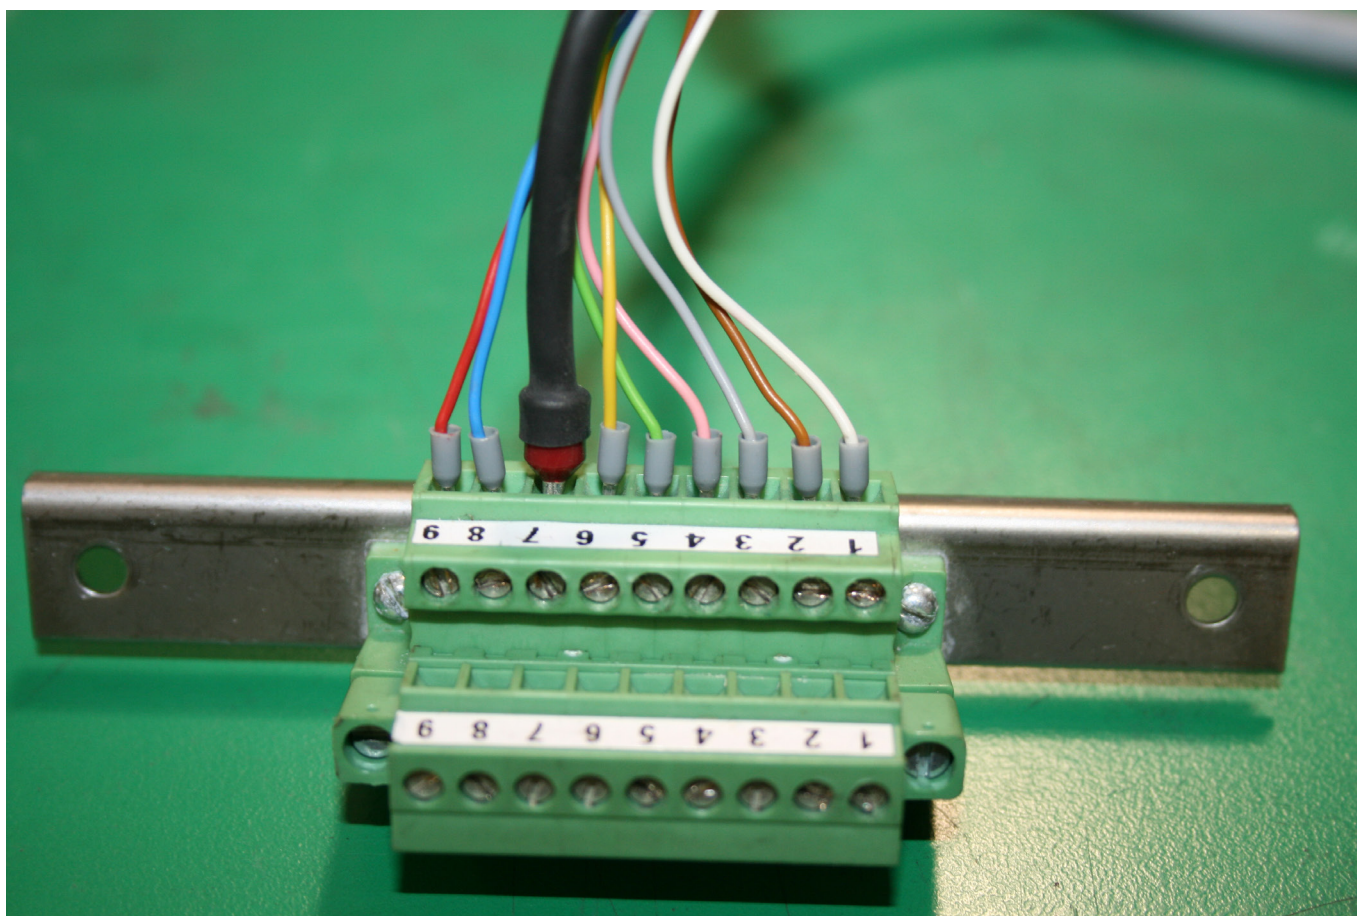

Figure 1 – Terminal Block Wires
- Connect wires to specified terminal block numbers (see wiring diagram table and Figure 1).